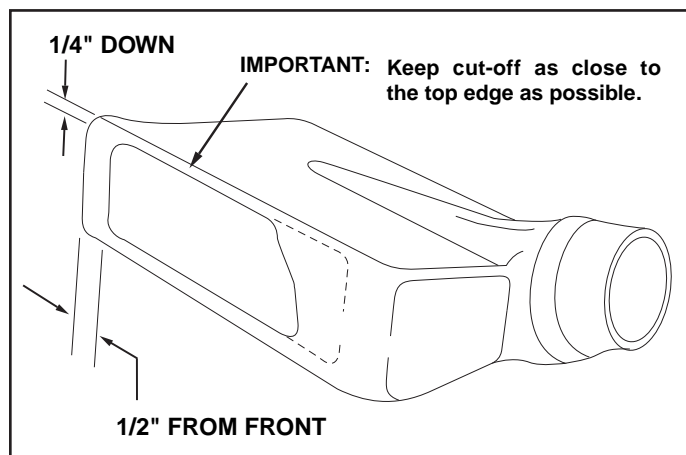

FIGURE 26
- Tape the template to the face of the adapter, about 1/2" from front and 1/4" down from top for deeper decks. For shallow decks, position template low enough that adapter will not extend below bottom of deck. Mark outline of template on face of adapter using white crayon, nail or scribe. Drill a starting hole inside the outline, then use a saber saw or key hole saw to cut out the opening. See figure 26.